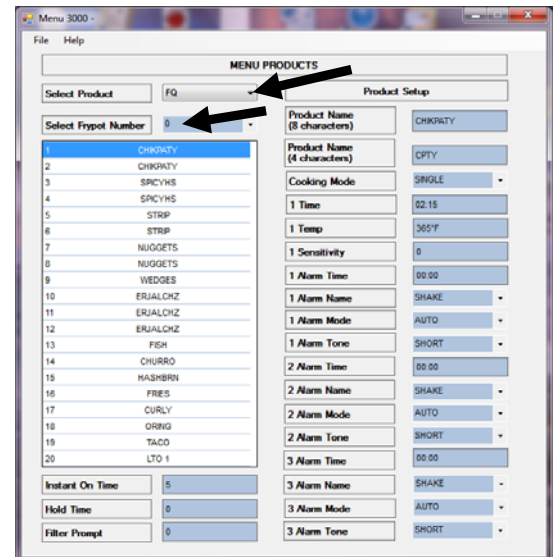

Figure 8
11. The MenuConnect menu creation screen is displayed in Figure 8.